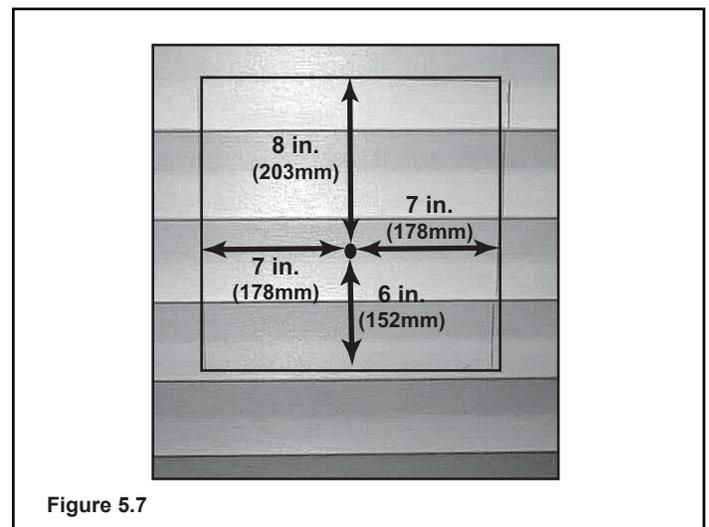

Figure 5.7
- (1) The four wood screws provided should be replaced with appropriate fasteners for stucco, brick, concrete, or other types of sidings.
- (2) A termination cap with a built-in vinyl siding standoff is highly recommended on a building with vinyl siding. The pilot hole will be 2 in. (51mm) closer to the bottom of the square than the top. Using a framing square, draw a 14 in. x 14 in. (356mm x 356mm) square around the pilot hole in the siding. See **Figure 5.7**.